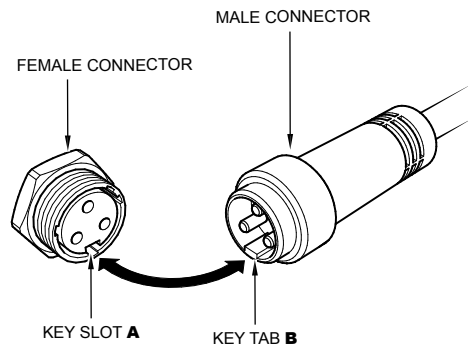

Figure 5. Female and Male Connector
- b. Locate the key slot A on each female connector as shown in Figure 5.
- c. On the corresponding male connector, locate the key tab B as shown in Figure 5.